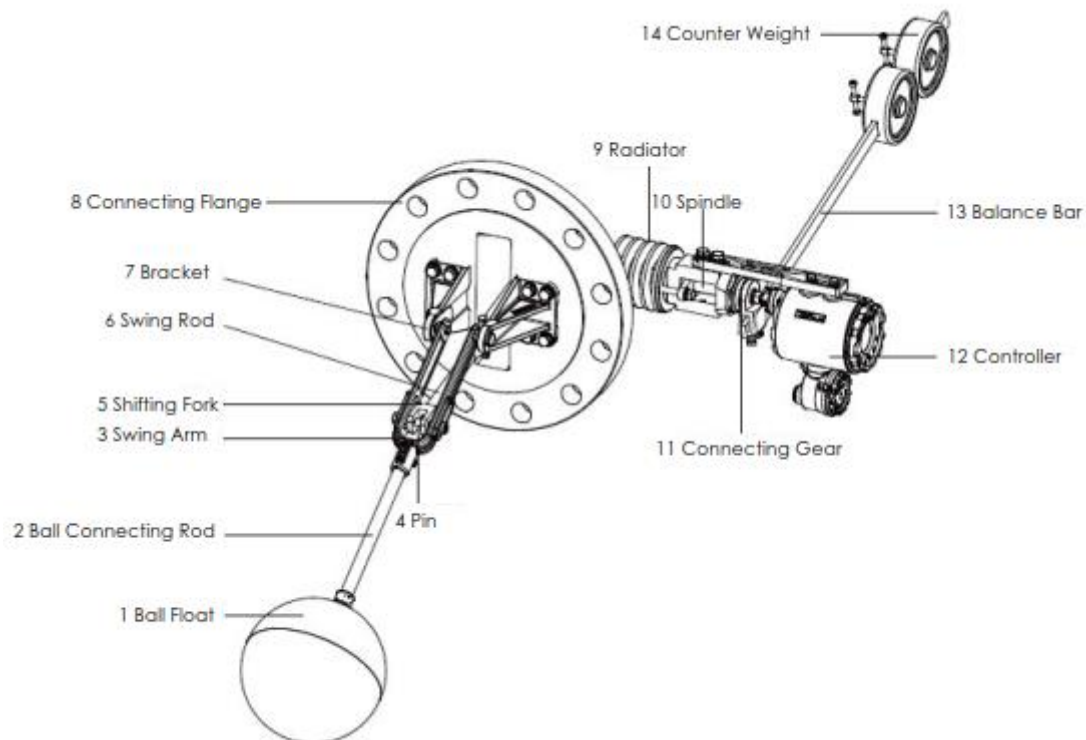

Figure 2 Large Rotation Angle Ball Float Level Transmitter
- Figure 2 large rotation angle ball float level transmitter